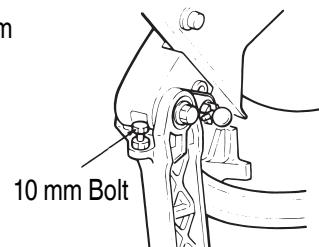

Fig. 6
4. Handle position adjustment (Fig. 6)
During cutting operation, adjusting the upper limit adjustment bolt according to workpiece height as illustrated in Fig. 6 reduces the up-down handle motion range for a higher operating efficiency.